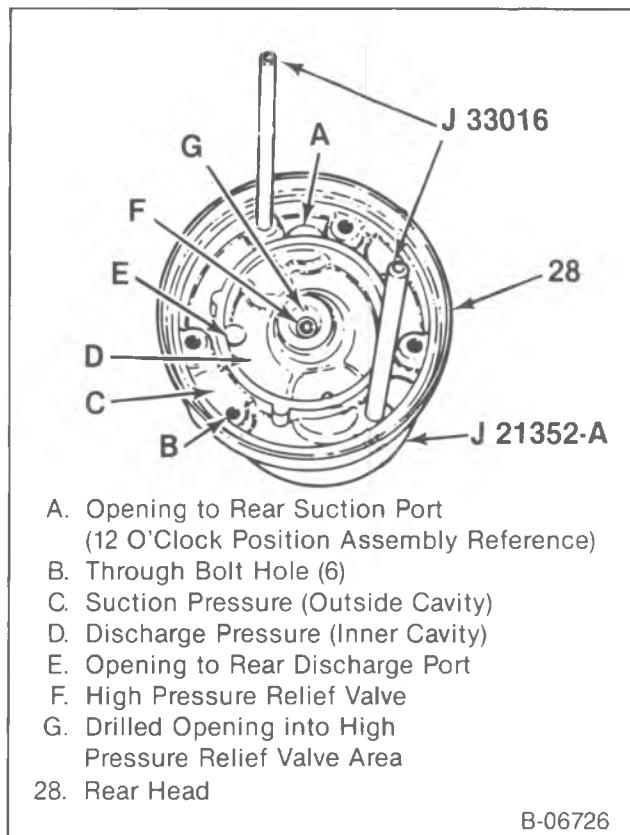

Figure 31—Positioning the J-33016 Guide Pins
- 1. Rear head (28) onto J 21352-A.
- Install J 33016 guide pins small diameter ends into the through bolt holes (figure 31).
- 2. Head gasket (27).